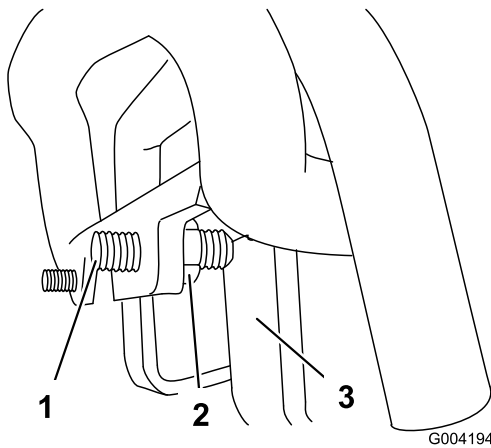

Figure 55
- If the traction unit veers to the **left**, loosen the **right** jam nut and adjust the tracking set screw on the front of the traction control (Figure 55).
- If the traction unit veers to the **right**, loosen the **left** jam nut and adjust the tracking set screw on the front of the traction control (Figure 55).